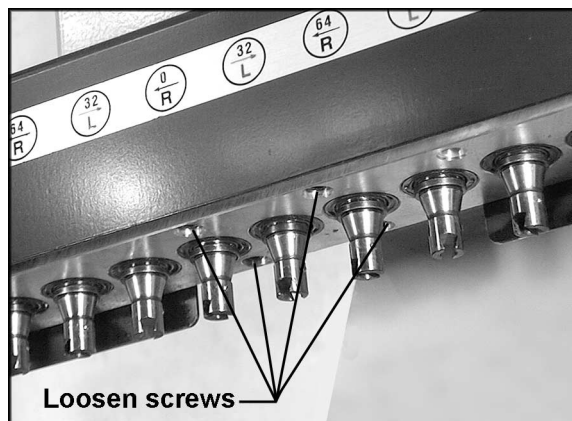

Figure 18
1. Slightly loosen the four socket head screws under the boring head (Figure 18) with a 5mm hex wrench.
5. Firmly re-tighten the four socket head screws (Figure 18)